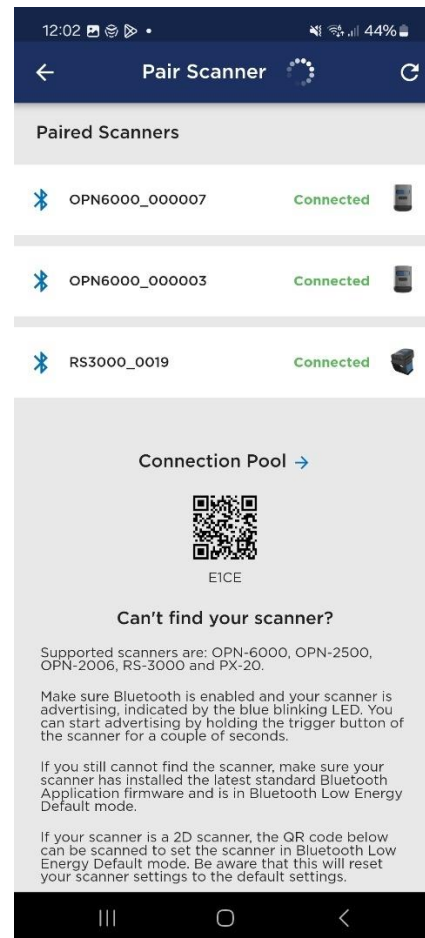

Figure 5-9: The *Pair Scanner* page with the Connection Pool QR code after a connection pooling ID has been generated.
2. **QR Code Generation:** The ID is encoded into a QR code. When scanned by a **2D** scanner, it adds this ID to its advertisement data and starts advertising for an auto-connect to this device. The QR code also becomes available on the *Pair Scanner* page (see Figure 5-9).